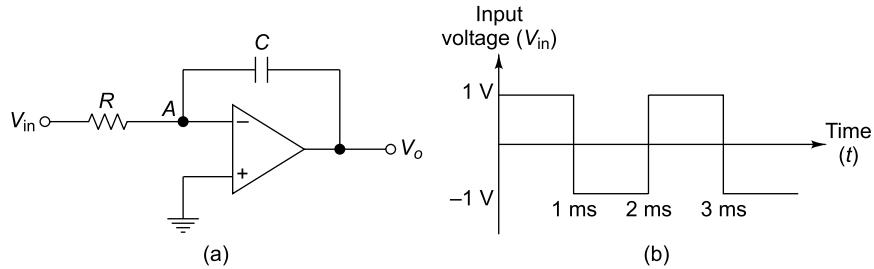

Fig. 5.42 (a) Circuit (b) Input voltage of Ex. 5.21
5.21 If a square wave is applied as input voltage to an integrator circuit as shown in Fig. 5.42, find out the output voltage. Assume $RC = 0.1$ second.